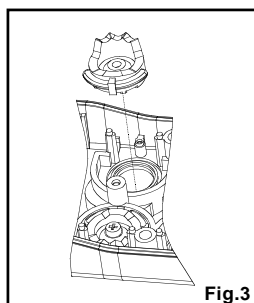

Fig.3
- 2- Fit the cam in the switch hole as shown in fig.3 with the pin toward the center of the housing.